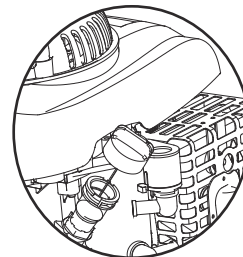

Fig. 9
1. Remove dipstick, wipe it clean, and fully re-insert it, check to see if oil is needed by the oil mark that is left on the dipstick. (Fig. 9)
2. Remove the dipstick and check the oil level (Fig. 9) If the oil level is low on the dipstick, slowly pour oil into the oil fill hole to raise the oil level to the full range on the dipstick. Do not overfill. Max fill 17oz (0.5 L), type SAE10w30 weight oil with an API service rating of SF or higher.